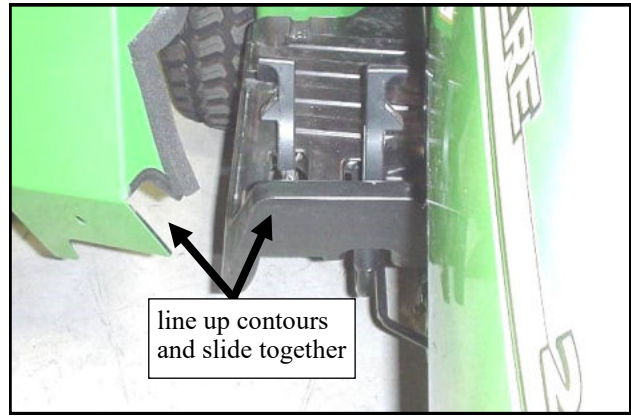

Fig. 8.1 Right Front Leg (model 2320 shown)
8.1 For model 2320 only, install the front leg by sliding in from the outside as shown in figures 8.1, 8.1.1, and 8.1.2. The top flange of the front leg goes behind the cowl against the side frame tubing. Caution: handle the front leg with care to avoid damaging the factory installed foam. Reposition the foam after assembly if necessary using a flat bladed screwdriver. Repeat all of step 8.1 for opposite side of vehicle.